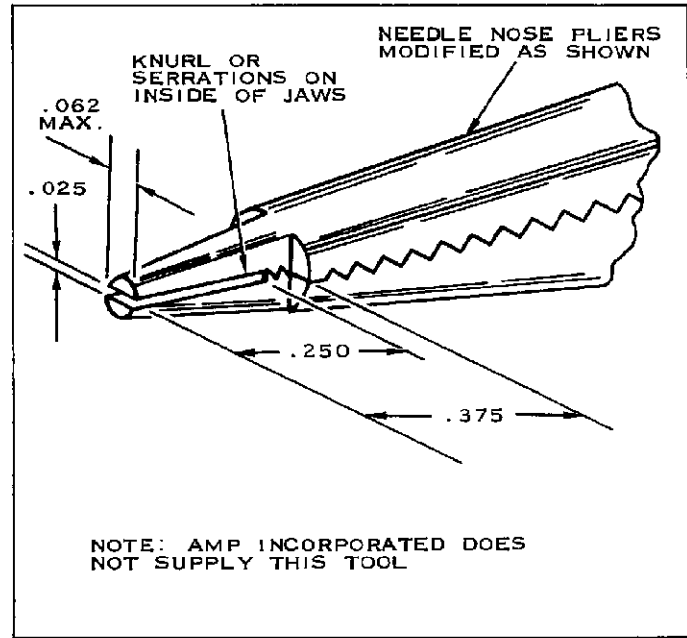

FIGURE 3
1. Select a pair of modified needle-nose pliers with good gripping capability. Insert the tool into the cavity and firmly grip the Keying Plug to be removed. See Figure 3.